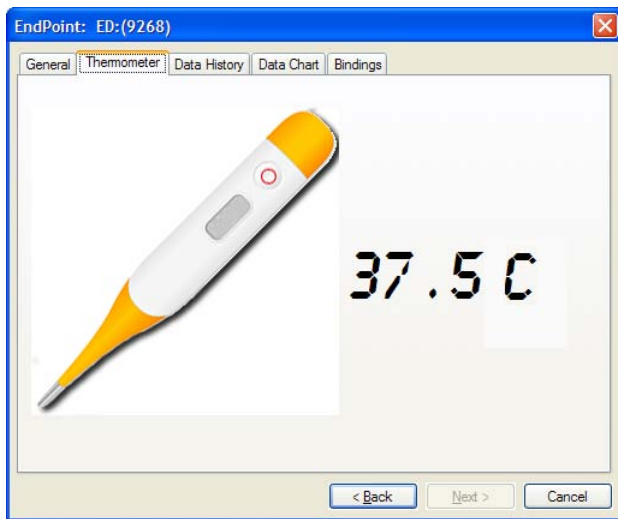

Figure 18. Visualizing Measurements
2. Double click the Thermometer icon in the ZeD GUI house plan and select the Thermometer tab in the property window. The tab window will show the agent image and the instantaneous measurement values as shown in Figure 18.